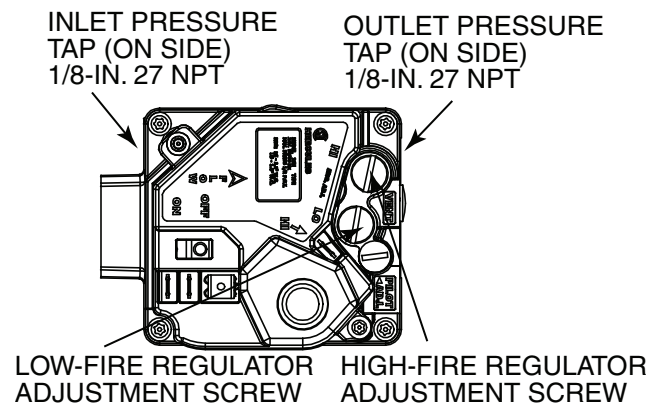

Fig. 92 — Two-Stage Gas Valve
6. Remove screw cap covering regulator adjustment screw (see Fig. 92).